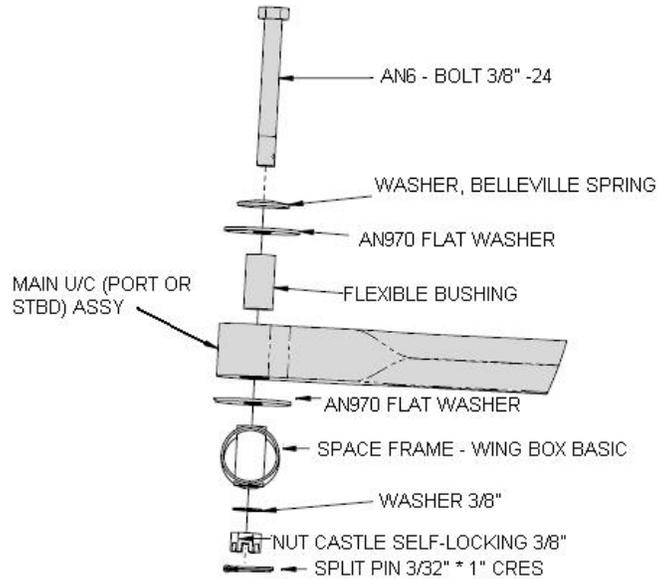

Figure 32-1 Exploded View of Main Landing Gear Attachment Bolt
4. Install inboard main gear attachment bolts with all hardware in correct order shown in Figure 32-1.